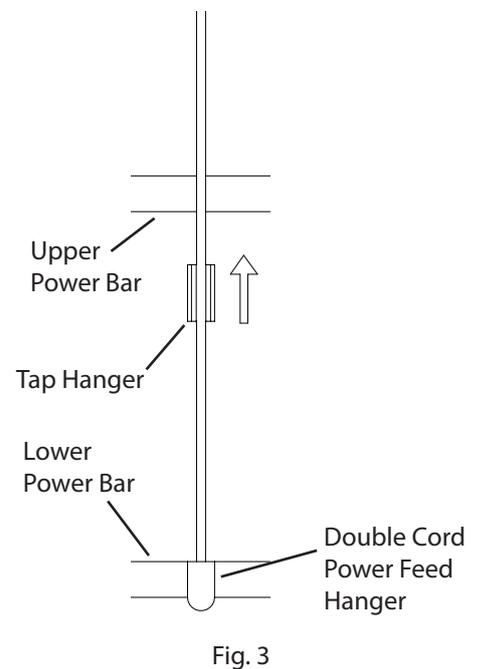
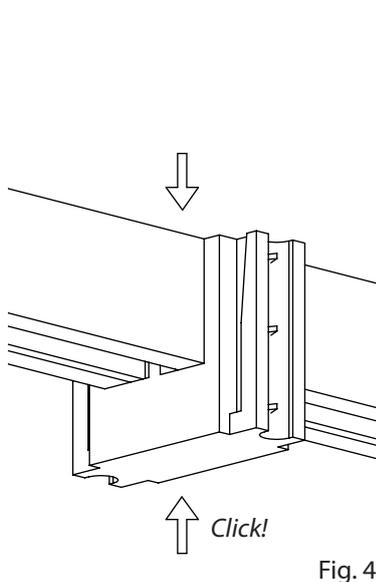

Fig. 3
Fig. 4
2. If desired, the **Spacer Clip** can be removed using a **Phillips Screwdriver** (Fig. 4).
3. Press down firmly on the top of the **Power Bar**, while pressing up on the bottom of the **Hanger**, until the Power Bar clicks into place (Fig. 3). Repeat for the second Power Bar.
4. Position **Tap Hanger** under **Upper Power Bar** at junction with **Double Cord Power Feed Hanger** (Fig. 3). Press down firmly on top of the Upper Power Bar, while pressing up on the bottom of Tap Hanger, until Tap Hanger clicks into place (Fig. 4).